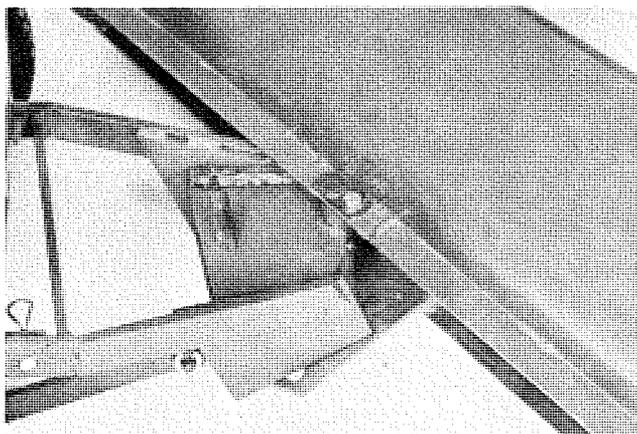

FIGURE 3
4. Align the tube of the main frame with the holes in the braces on back of blade assembly. Place the pivot pin down through the holes. Align the hole of the pivot with the hole on the blade and secure with the  $\frac{3}{8}$ -16 bolt and nut. See Figure 3.